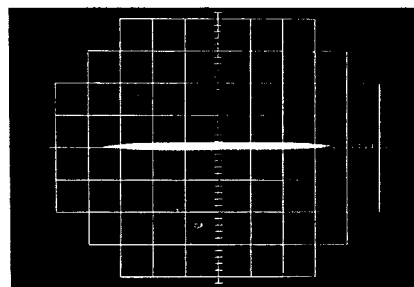

Fig. 9
4. The multipath wave-forms appear in a number of differing patterns in accordance with the height and direction of the antenna and with the strength of the radio waves. In addition, they are undergoing variations all the time due to the strength of the audio signals. The waveforms illustrated in Photo A of Fig. 9 are an example of what you can expect to observe when the multipath distortion is relatively high. In order to reduce the multipath distortion, adjust the height and direction of the antenna so that the patterns become linear (see Photo B of Fig. 9).